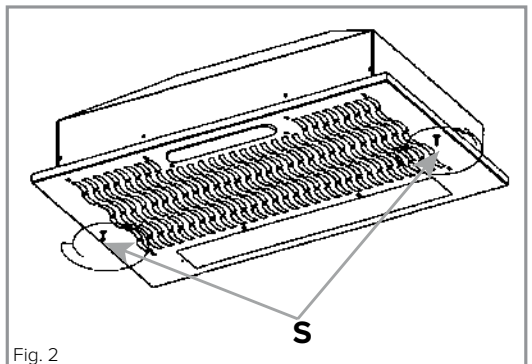

Fig. 2
1. Unfasten the securing screws (S in Fig 2) on either side of the cover panel and the cover panel will come off. **Take care not to drop it.**
1. Unfasten the securing screws (S in Fig 2 on page 7) on either side of the cover panel and the cover panel will come off. **Take care not to drop it.**
To fit the charcoal filters, remove the cover panel by unfastening the securing screws (S in Fig 2 on page 7) on either side of the cover panel and the cover panel will come off. **Take care not to drop it.** If the plastic inlet covers (position of one circled in Fig. 7) are in place, remove them using a small posi-headed screwdriver and fit the charcoal filters in their place using the screw you just removed (Fig. 8). Replacing the charcoal filters after they have saturated (approx. every 6 months) is the same process.